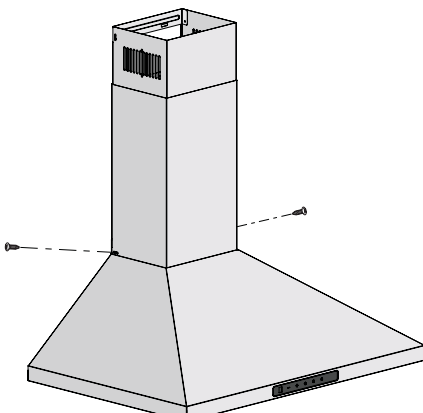

Figure 4
- Place chimney on top of the main housing and screw in with two screws (see Figure 4).